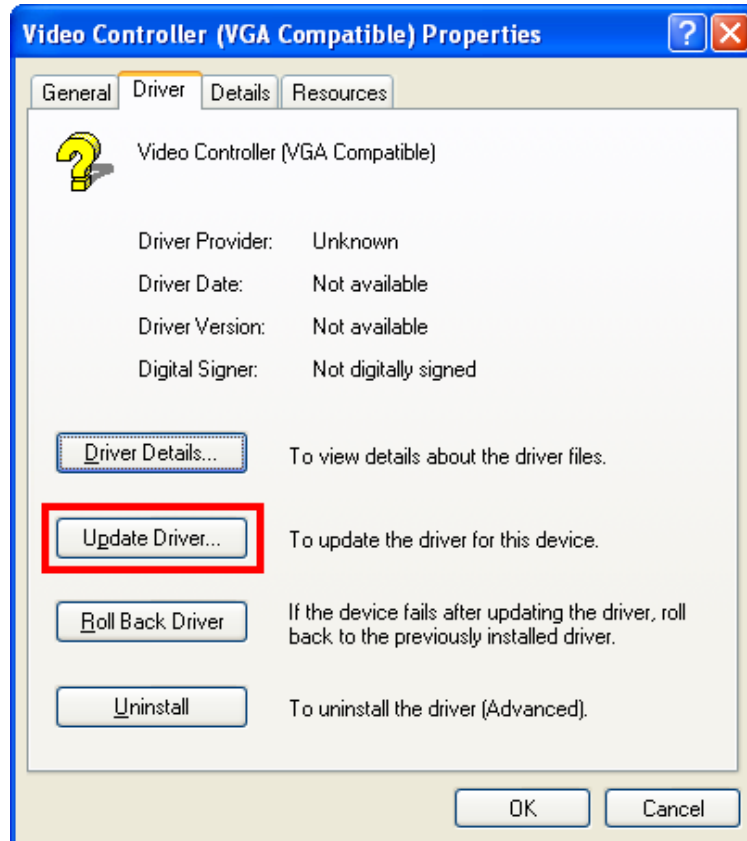

Figure 7-7: Video Controller Properties Window
Step 6: The **Video Controller Properties** window appears (Figure 7-7).